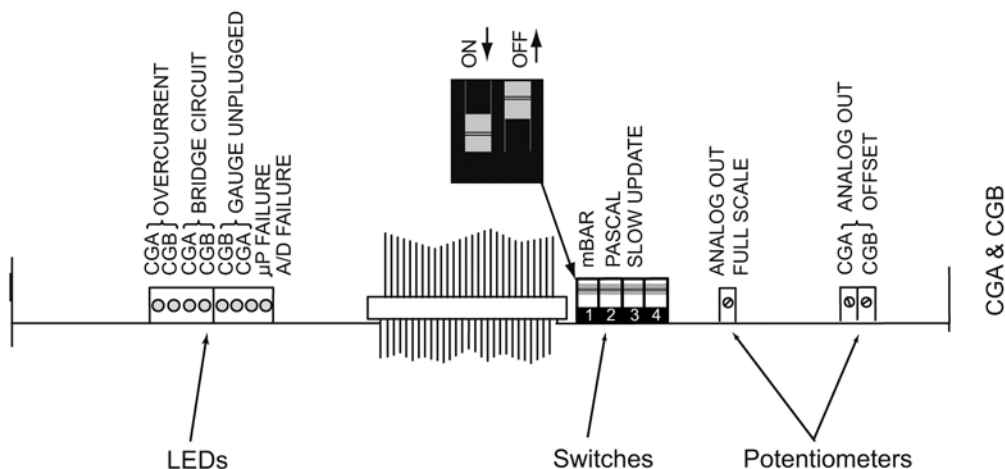

Figure 5-1 Convectron Modules - Top View (Controller Cover Removed)
4. Locate the mbar and pascal units switches. See Figure 5-1.